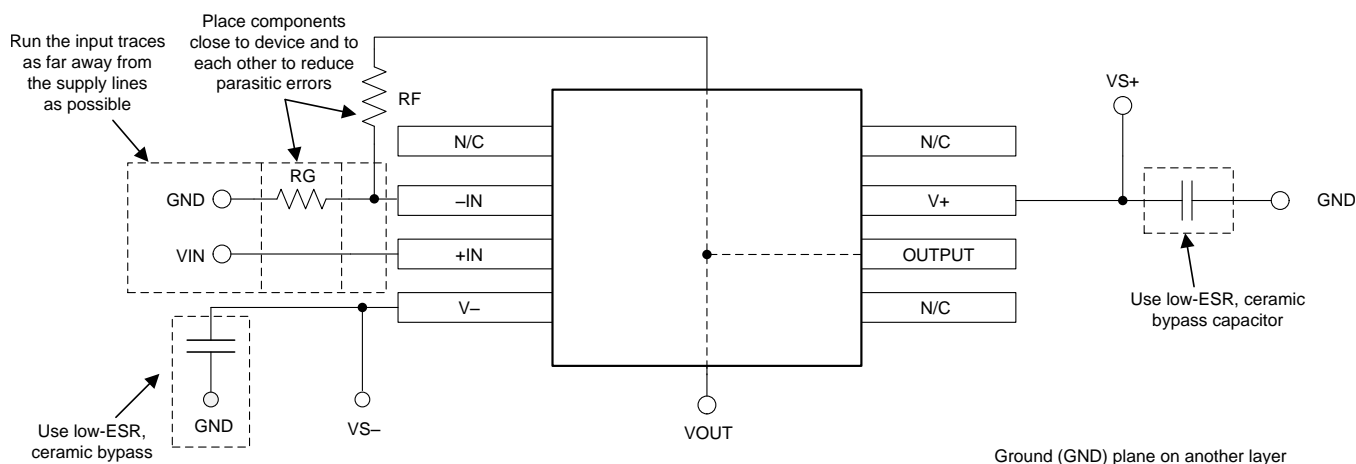

Figure 34. Operational Amplifier Board Layout for Noninverting Configuration
- Place the external components as close to the device as possible. As illustrated in Figure 34, keeping R_F and R_G close to the inverting input minimizes parasitic capacitance.